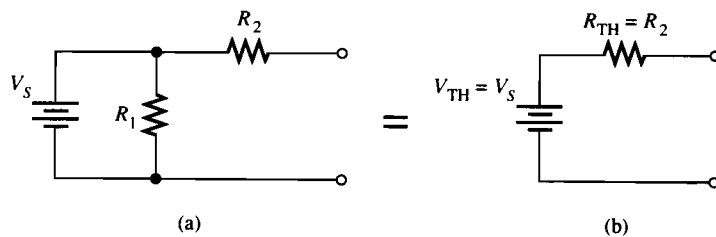

Figure 12-5
4. Figure 12-5(a) shows a circuit, and Figure 12-5(b) shows its equivalent Thevenin circuit. Explain why R_1 has no effect on the Thevenin circuit.